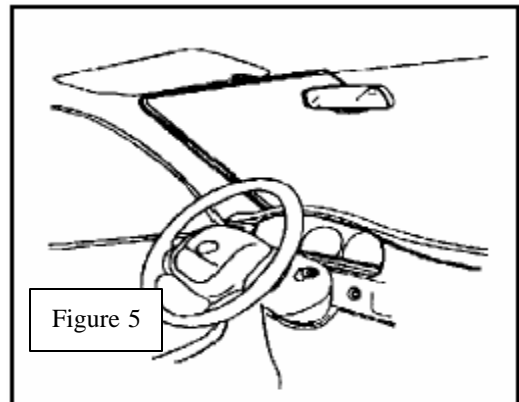

Figure 5
1. Route the mirror wiring harness (**Figure 5**).